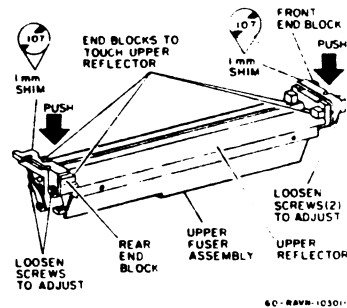

Figure 1. Adjusting the End Blocks
3. ADJUST THE FRONT AND REAR END BLOCKS ON THE UPPER FUSER ASSEMBLY (FIGURE 1).